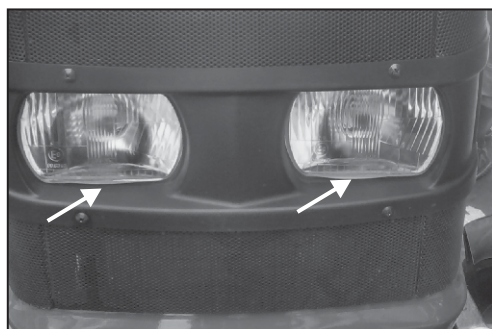

Fig. 3.5a
a. **Headlights:** Headlights of the tractor are shown in figure 3.5a.